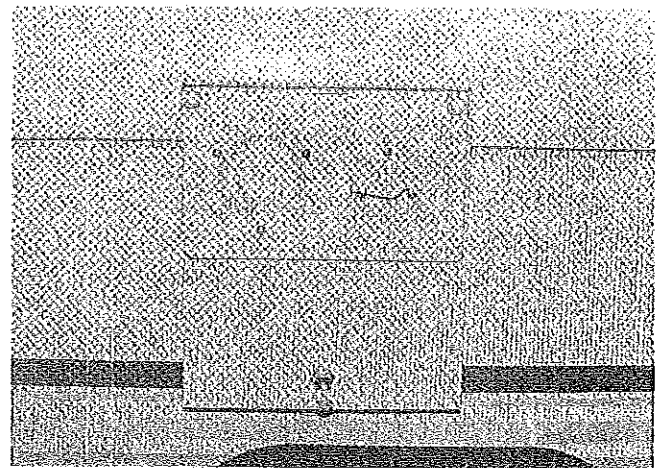

FIGURE 31
1. When the campsite provides a pressurized water system: On Americana series, insert the key in the utility port door and open. See Figure 31. Remove the protective cap from the external pressure water connector. Attach a non-toxic garden hose (not furnished) between the external trailer connection and the campsite-furnished faucet.